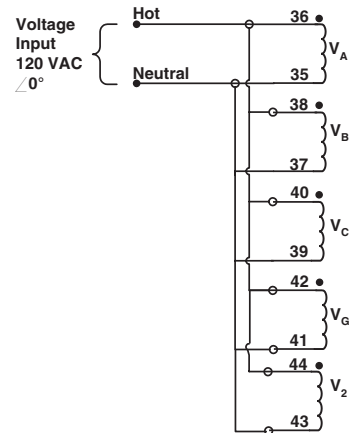

Figure 6-7 Voltage Calibration Configuration
3. Connect all voltage inputs in parallel ($V_A = V_B = V_C = V_2$) and apply 120.00 (± 0.01) V AC $s0^\circ$. See Figure 6-7.